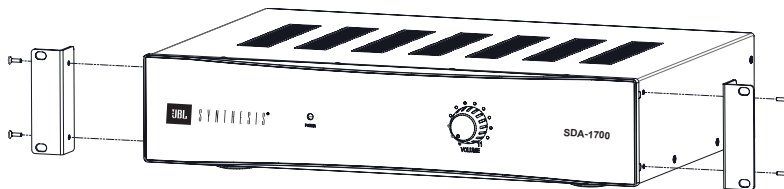

Figure 4
- If applicable and or required by the installation, attach the rack mount brackets to each side of the front of the amplifier using the screws provided. Refer to Figure 4.